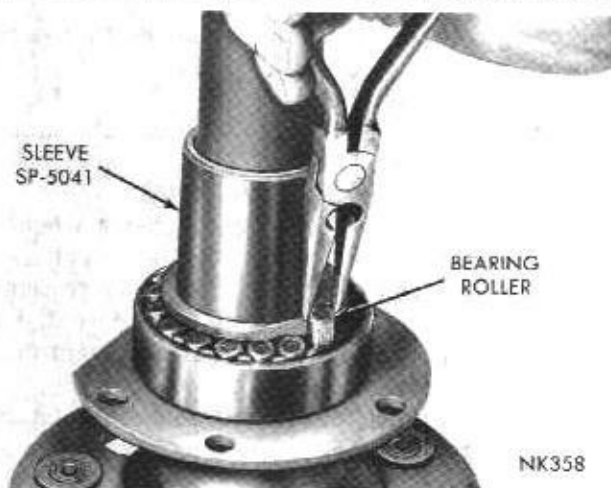

Fig. 9—Removing Bearing Rollers
(3) Grind a section off flange of inner bearing cone (Fig. 8) and remove bearing rollers (Fig. 9).